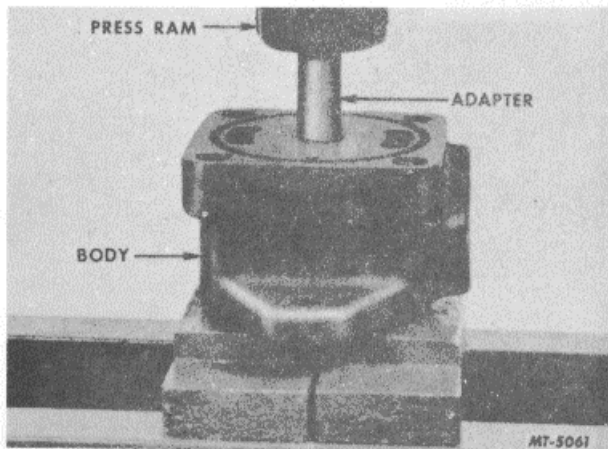

Fig. 16
12. With a suitable adapter press out the inner bearing from the body, Fig. 16.